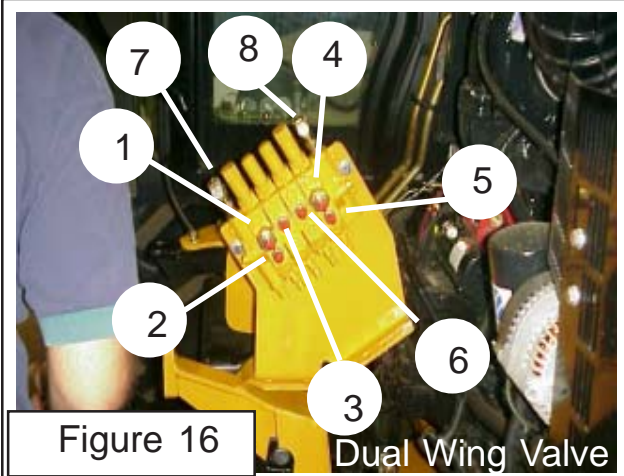

Figure 16
1. Remove filter. Inspect material trapped by the filter. It can indicate parts wear in the system (See Figure 16).
3. Install the new filter. Install the new filter into the filter canister (See Figure 16). It will not be required to fill filter canister with oil as the filter is on the supply return line. DO NOT operate system with out a filter and do not operate with incorrect Filter. Use only the correct Micron Size Filter that is designed for this system (See Figure 16).
Connect hoses with elbow pointing down (See Figure 16)
4. Control Valve Information. Shown Below is the valve used on the dual wing models, this is for illustration only and will not be the same as the single valve used on the RH only model, the cable connectins will connect the same. The two right sections of the valve (as shown in Figure 13 & 14) are the same as the single valve and will connect the same way (See Figure 16 and step 3).